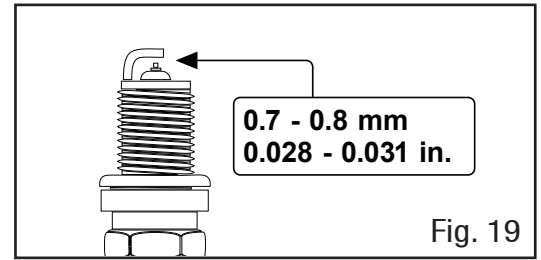

Fig. 19
6. Measure the plug gap with a spark plug gap gauge. The gap should be 0.7 - 0.8 mm (0.028 - 0.031 in) (Fig. 19). Carefully adjust the gap if necessary.